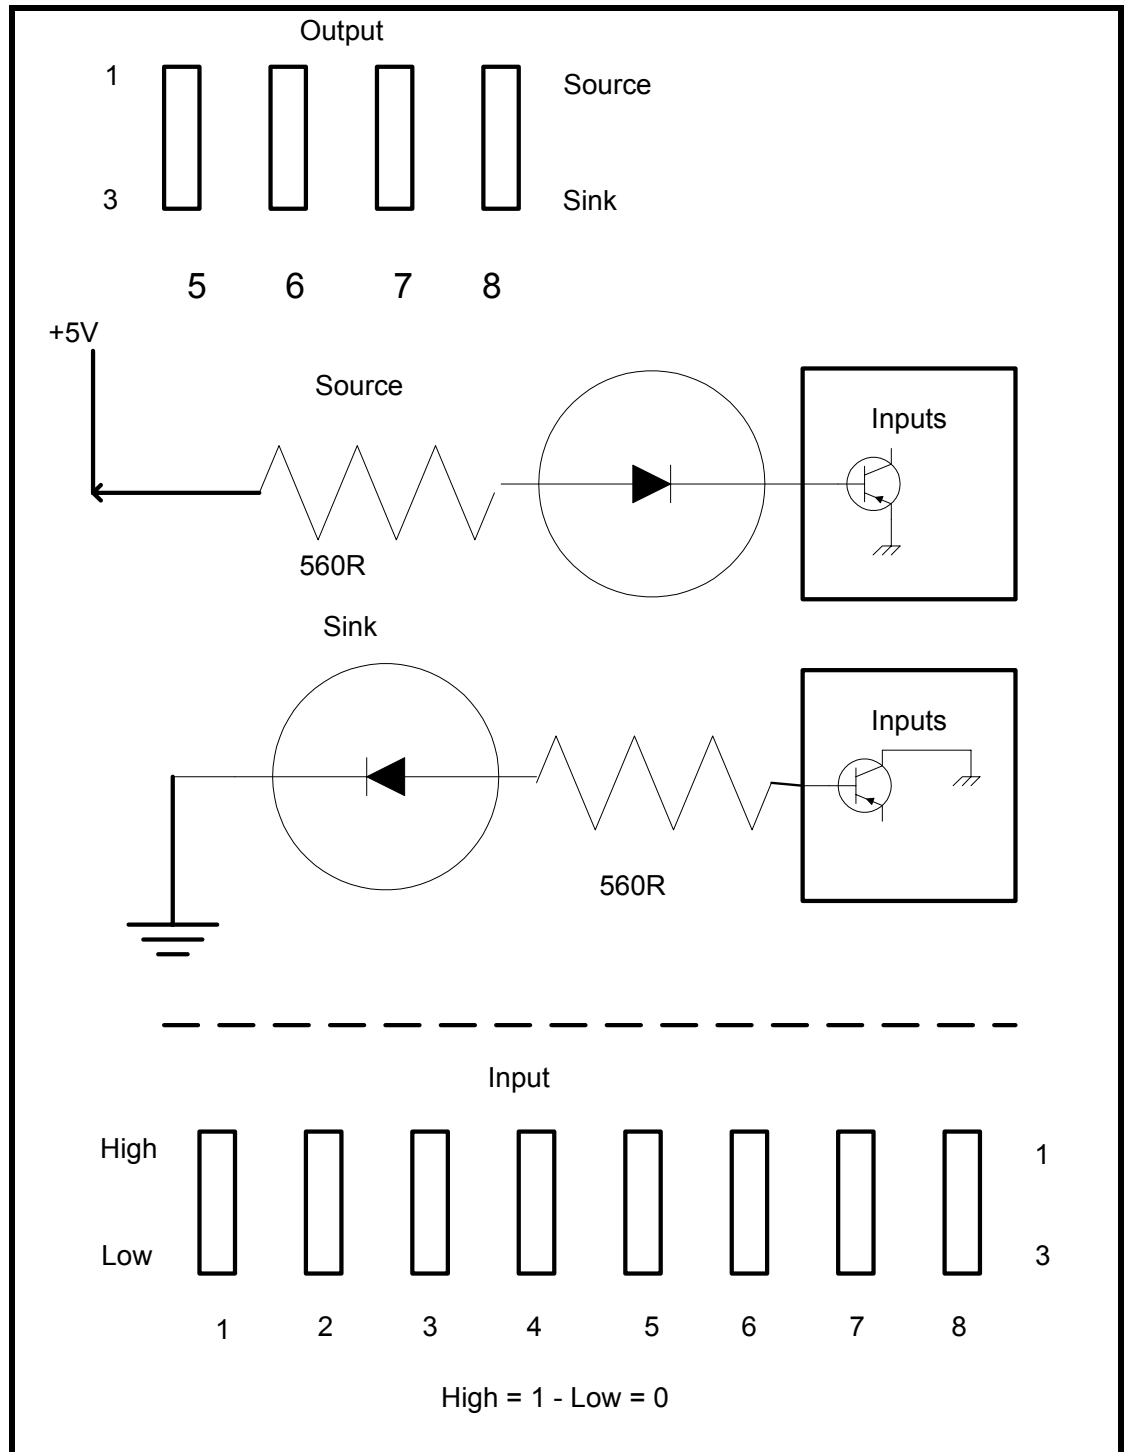

Figure 6-2: I/O Jumpers
4. Change the jumper settings. Refer to the diagram in Figure 6-2.